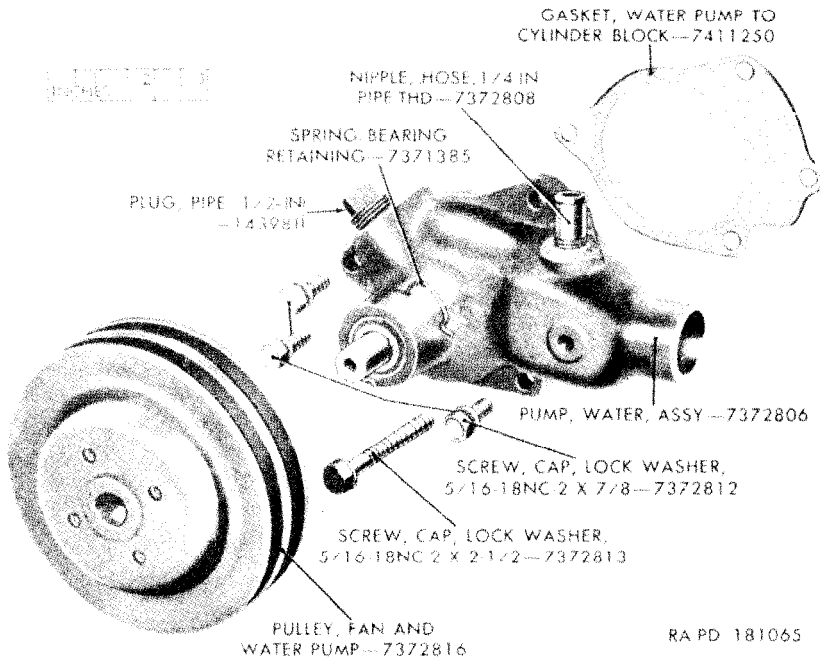

Figure 54. Water pump assembly.
a. Pull the water pump bearing retaining spring (fig. 54) out of the slot in the body of the water pump.
f. Do not remove either the pipe plug or the hose nipple (fig. 54) from the water pump body unless they are damaged.
e. Aline the bearing retaining spring (fig. 54) groove in the bearing with the slot in the body of the water pump, and install the bearing retaining spring.